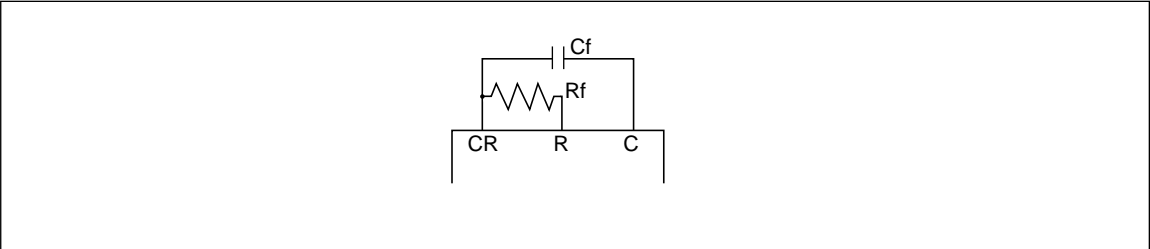

Figure 18 Timing Components
12. Figure 18 shows a typical relation among oscillation frequency f_{osc} and C_f . Oscillation frequency may vary with mounting conditions.